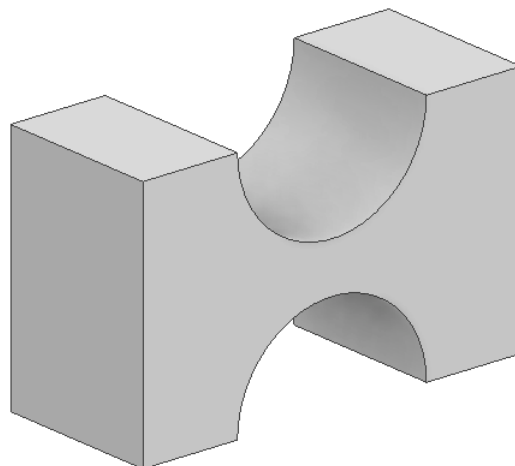

Figure 2-96 The model created on extruding the sketch
3. Choose **OK** from the dialog box to create the model and exit the **Properties-Extrusion** tool. The extruded model is shown in Figure 2-96.